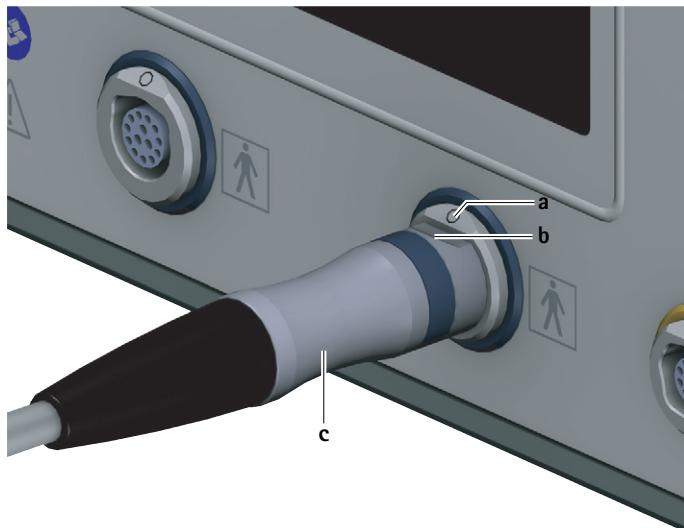

Fig. 3 Connecting the motor cable
- ▶ Position connector for control unit **c** on the motor cable so that marking **b** on the connector is aligned with marking **a** on the connection socket for applied parts **7**, see Fig. 3.
- ▶ Unplug the motor cable on the connector for control unit **c** from the connection socket for applied parts **7**, see Fig. 3.